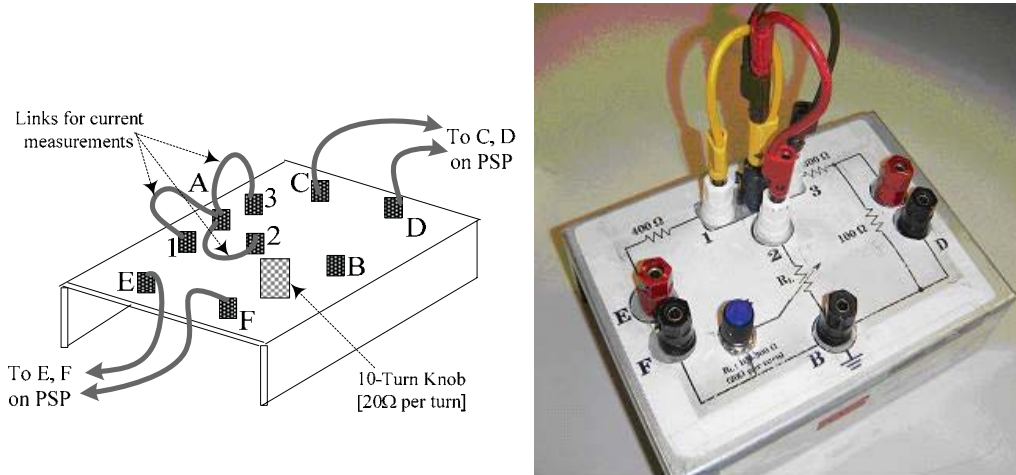

Figure 1.7 : The ‘R-Chassis’
**Experimental Circuit for DC experiments:** The resistor circuit shown in Figures 1.3 and 1.4 is available in the lab, constructed on an old-fashioned aluminum chassis (called the ‘R-Chassis’) shown in Figure 1.7. It is used in this experiment for DC measurements. The actual circuit connections between the various terminals on the chassis can be easily examined visually. The circuit diagram of the R-chassis with the resistance values used, is pasted on the top side of the chassis, as seen in the photograph. The resistor values as well as the patch cord connections to be made, including current-measurement links (around the node A), are also shown in both figures above. The value of  $R_L$  in the circuit is variable from  $100\Omega$  to  $300\Omega$  using a 10-turn potentiometer ( $20\Omega$  per turn starting from  $100\Omega$ )